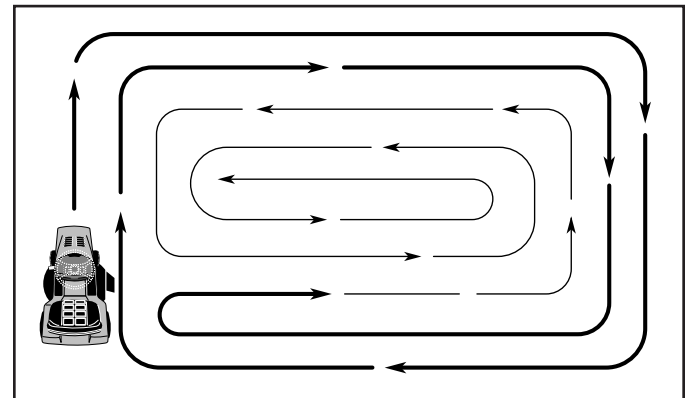

Fig. 15
TO START ENGINE (See Fig. 15)
- When mowing large areas, start by turning to the right so that clippings will discharge away from shrubs, fences, driveways, etc. After one or two rounds, mow in the opposite direction making left hand turns until finished (See Fig. 15).